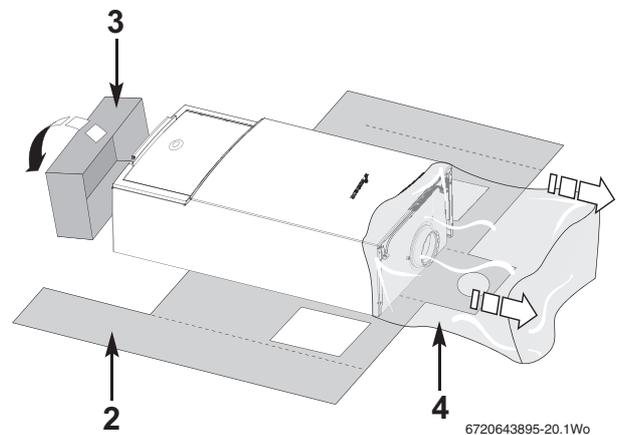

Fig. 25 Remove packaging
- ▶ Remove outer carton (1) and place safely away from the working area.
- ▶ With the outer packaging removed and the inner sleeve (2) still in place gently lay the boiler on its back.
- ▶ The boiler will lie at an angle to the floor to allow the boiler outer casing (5) to be removed.
- ▶ The inner sleeve (2) opens as shown in figure 25.
- ▶ Remove the protective wrapping (4).